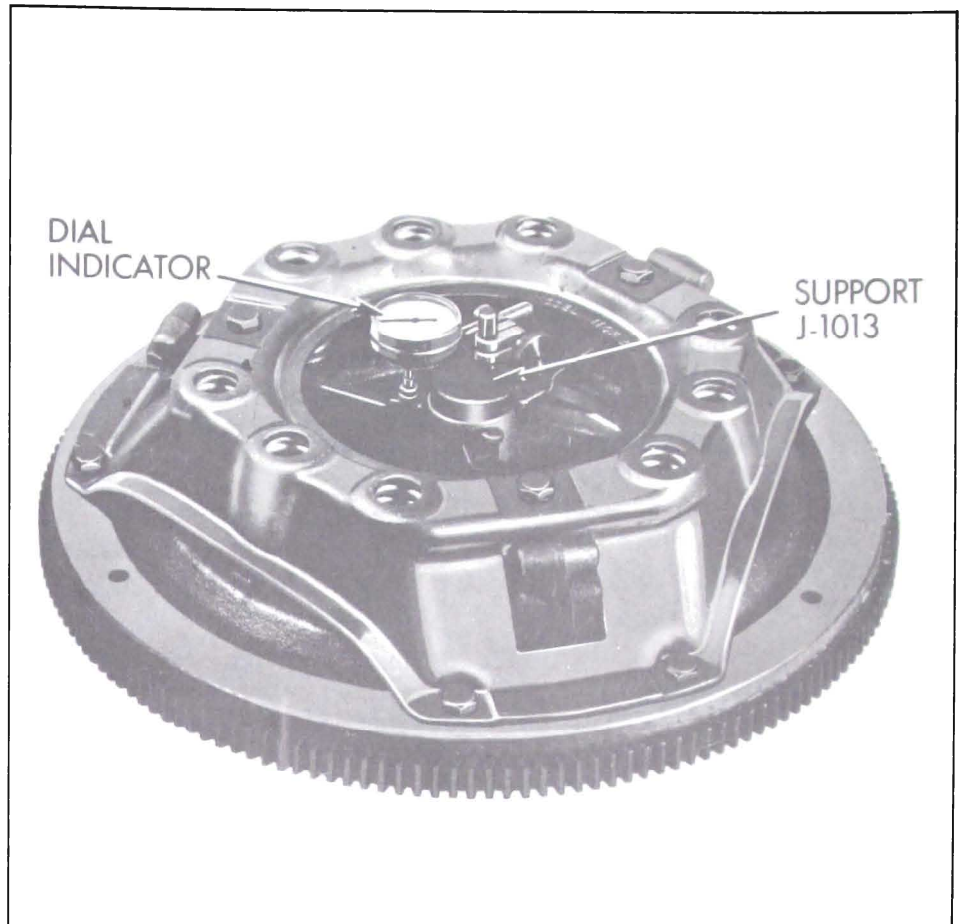

Figure 4-5—Checking Release Lever Height
1. Mount clutch assembly for checking by placing Adjusting Gauge J-1036 on a spare flywheel and then placing clutch assembly over gauge so that release levers are directly above machined bosses of gauge. See Figure 4-5.
3. Zero dial indicator by mounting dial indicator on Support J-1013. See Figure 4-5. Then set support on flat surface, press indicator down against surface until